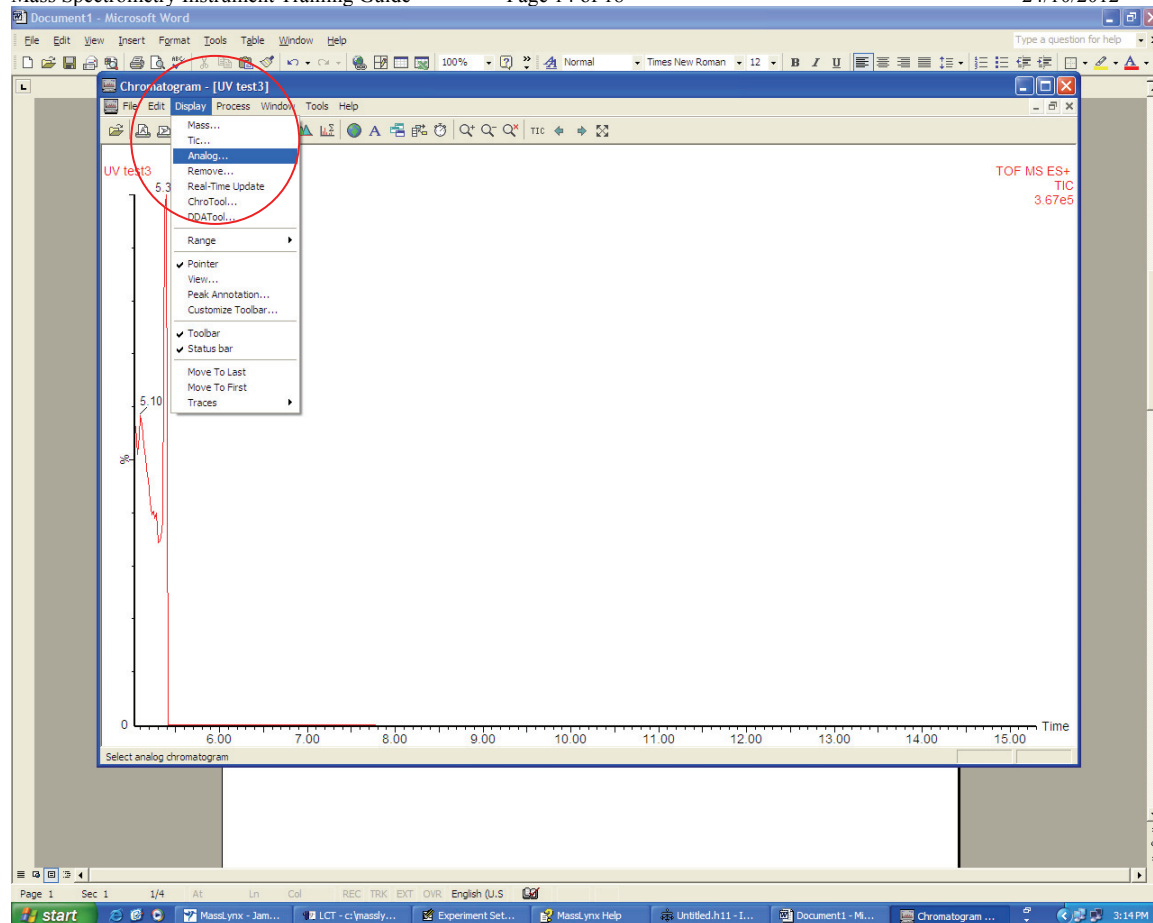

Figure 16: Viewing UV trace through analogue channels
4.4 To view the UV trace open the chromatogram window, select 'Display' from the menu bar and then Analogue... (Figure 16)